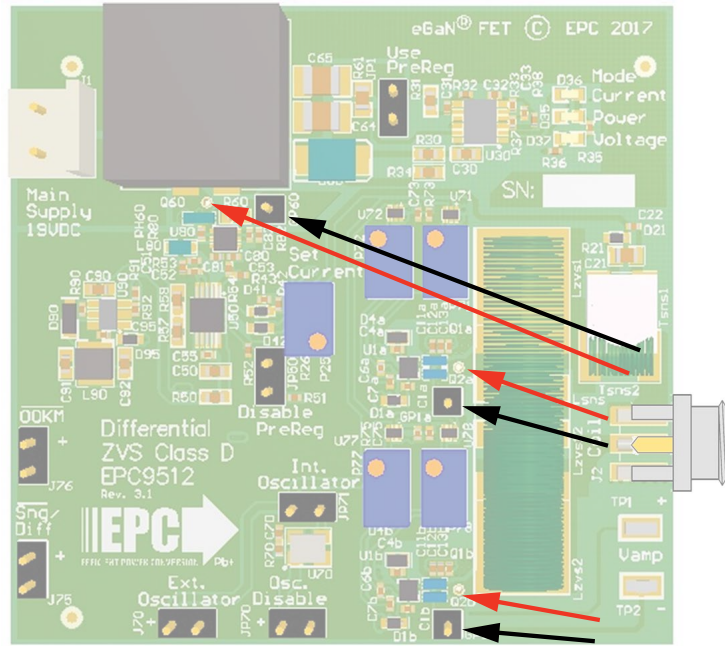

Figure 11: Measurement locations of switch node waveforms.
1. When measuring the high frequency content switch-node (Source Coil Voltage), care must be taken to avoid long ground leads. An oscilloscope probe connection (preferred method) has been built into the board to simplify the measurement of the Source Coil Voltage (shown in figure 11).